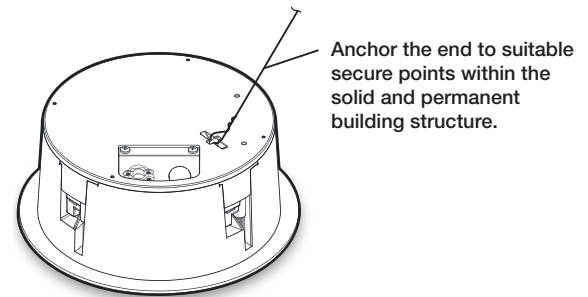

Figure 10. Attach Secondary support Line
- a.** Connect a secondary support line to the support loop on the back of the speaker enclosure (see figure 10).